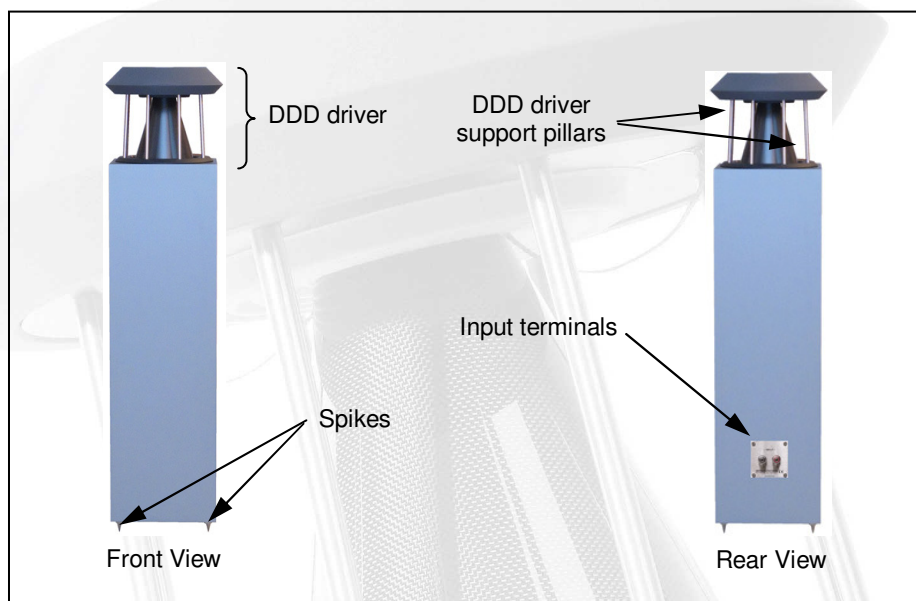

Figure 4. Principle Features of the Unlimited Mk II
Do not lift the loudspeakers by the DDD driver support pillars (figure 4) as this may damage the driver.
4. Lift the loudspeaker out of the box by supporting it under the sides of the cabinet and stand it upright on its shipping supports. Do not lift by the DDD driver – see figure 4. When lifting the loudspeaker from the vertical is necessary to place one hand under the base of the loudspeaker. To avoid damaging the woofer, ensure that you only support the base of the loudspeaker by the underside of the cabinet - see figure 3.
The input terminals are located on a panel on the back of the cabinet (figure 4). These can accept spade terminals, banana (5mm) plugs or bare cable.